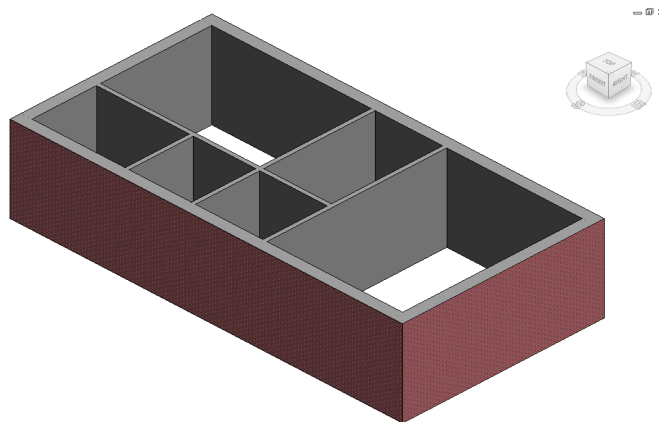

Figure 3-66 3D view of the Apartment 1 building model
8. Now, choose the **Visual Style** button from the **View Control Bar**; a flyout is displayed. Choose the **Shaded** option from this flyout; the 3D view is displayed with the shading and edges visible, as shown in Figure 3-66.